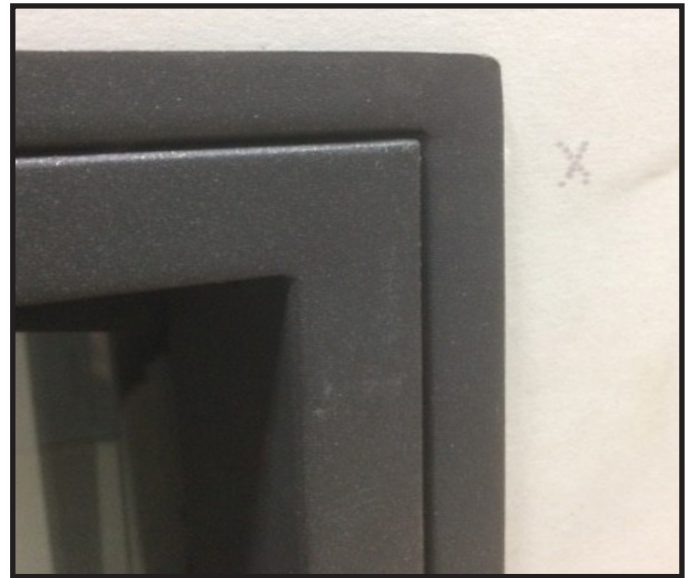

Figure 4.7 Front / Trim Ring Installed to Overlap Wall
- Overlap fit with Front / Trim Ring. See Figure 4.7.